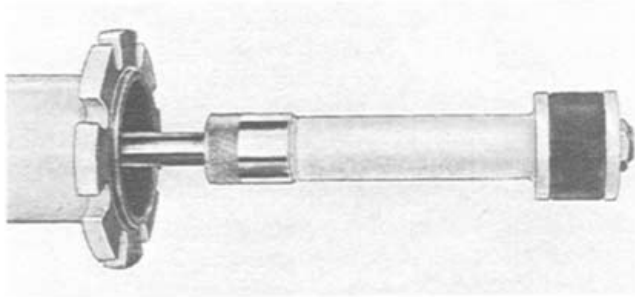

FIGURE 66
3. **Attach special stopper to inserting bar of stopping machine by screwing coupler sleeve to stopper threads. Figure 66.**